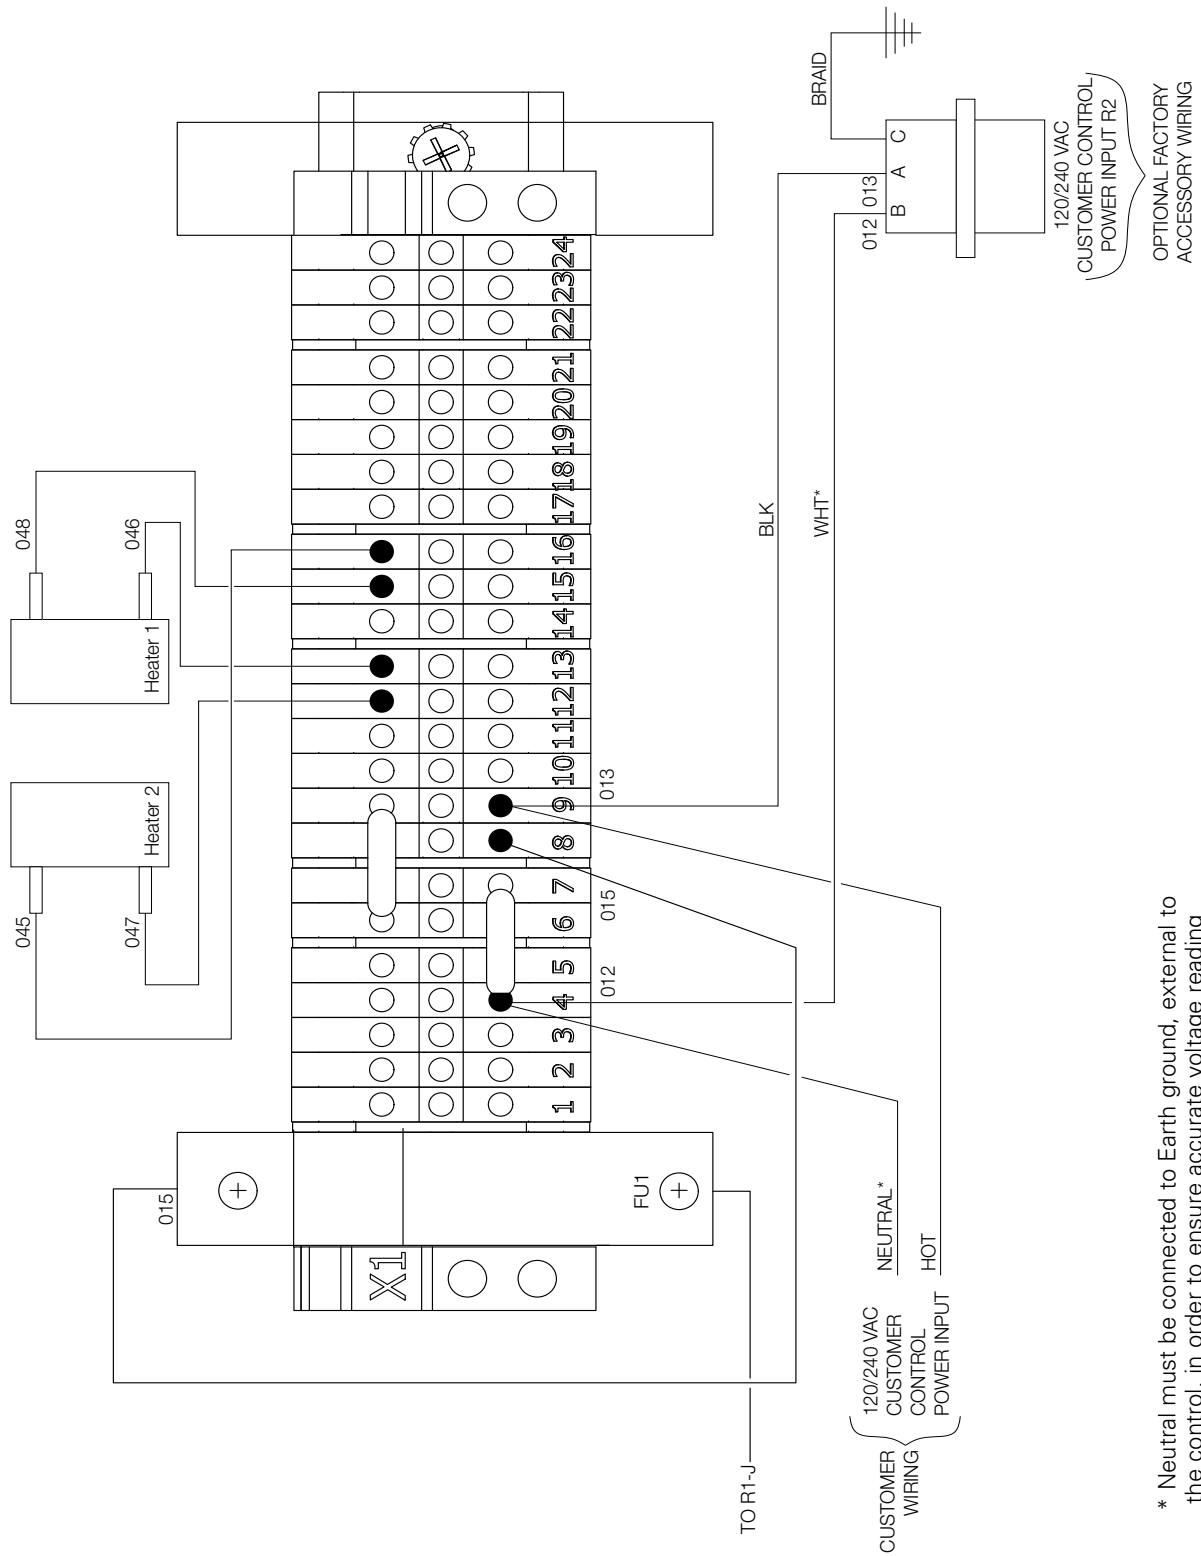

Figure 22. 120 or 240 VAC 3-wire control power input (shown with default factory wiring connected to single-phase voltage input supply)
- Follow the grounding requirements shown on the Voltage Sensing wire diagram appropriate for your three-wire application (Figure 22).